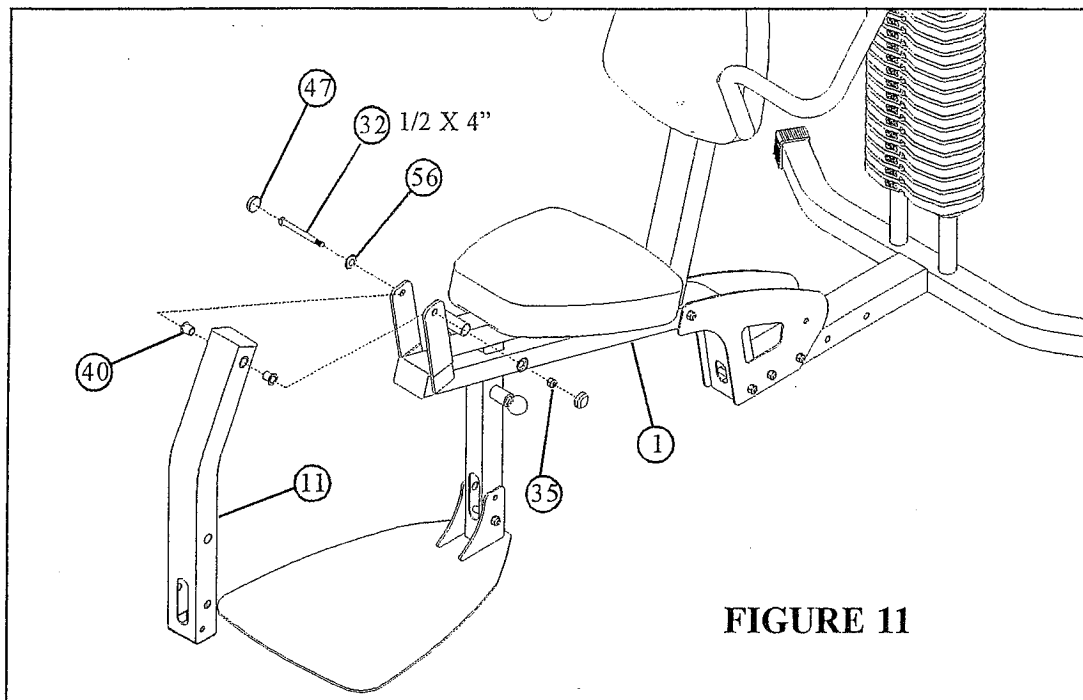

FIGURE 11
- Insert two 1/2" FLANGE BEARINGS (40) into LEG PEDESTAL (11) as shown.
- Assemble the LEG PEDESTAL (11) to the FRAME (1) using one 1/2 X 4" BOLT (32), two RH WASHERS (56) and one 1/2" LOW HT LOCK NUT (35)
- Assemble two RH CAPS (47) to the 1/2" RH WASHERS (56) as shown in FIGURE 11